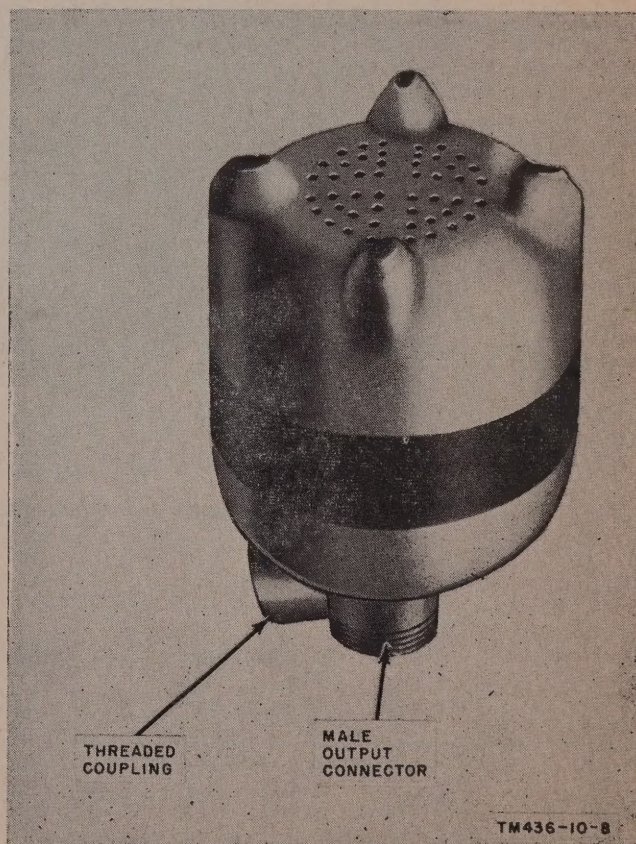

Figure 2. Dynamic Microphone M-23/U.
b. Minor Components (figs. 2 and 3).
- (1) *Microphone* (fig. 2). The microphone (housed in the microphone compartment of the loudspeaker assembly) has a connector to accommodate the microphone cable connector ((3) below). The base of the microphone has a threaded coupling so that the unit can be mounted on a stand.